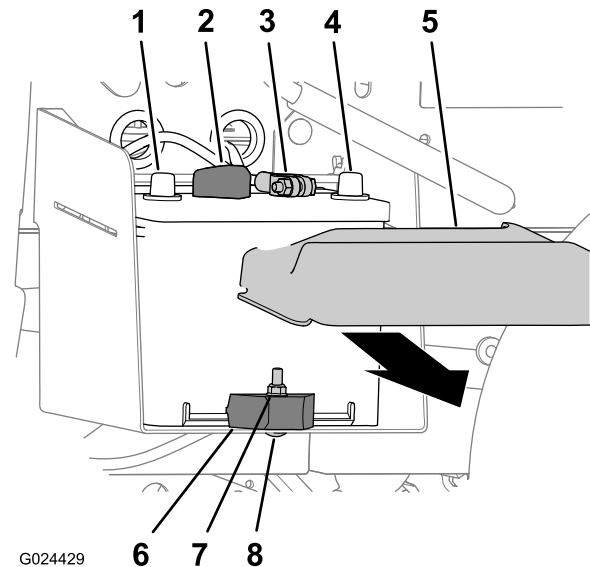

Figure 56
1. Squeeze the sides of the battery cover and remove the cover from the top of the battery (Figure 56).
2. Disconnect the negative (black) battery cable from the terminal of the battery (Figure 56).
3. Disconnecting the positive (red) cable from the terminal of the battery (Figure 56).
2. Remove the locknut, carriage bolt, and battery clamp that secures the battery to the battery tray (Figure 56).
3. Remove the battery from the battery tray (Figure 56).
1. Align the battery to the battery tray of the machine (Figure 56).
Note: Ensure that the positive and negative posts of the battery are aligned as shown in Figure 56.
2. Secure the battery to the battery tray with the battery clamp, carriage bolt, and locknut (Figure 56).
1. Connect the positive (red) battery cable to the terminal of the battery (Figure 56).
2. Connect the negative (black) battery cable to the terminal of the battery (Figure 56).
3. Install the battery cover onto the top of the battery (Figure 56).